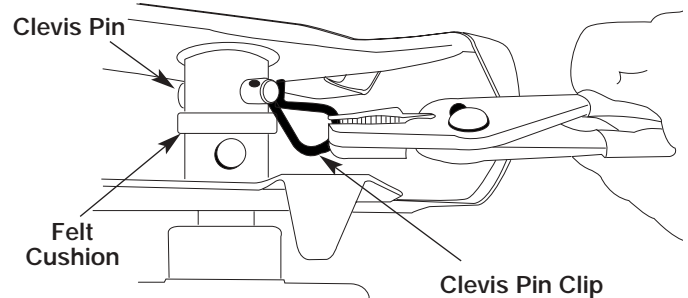

Fig. 15
- Put the On/Off Stop Control in the STOP (O) position and disconnect the spark plug wire.
- Remove the clevis pin clips and clevis pins (Fig. 15).